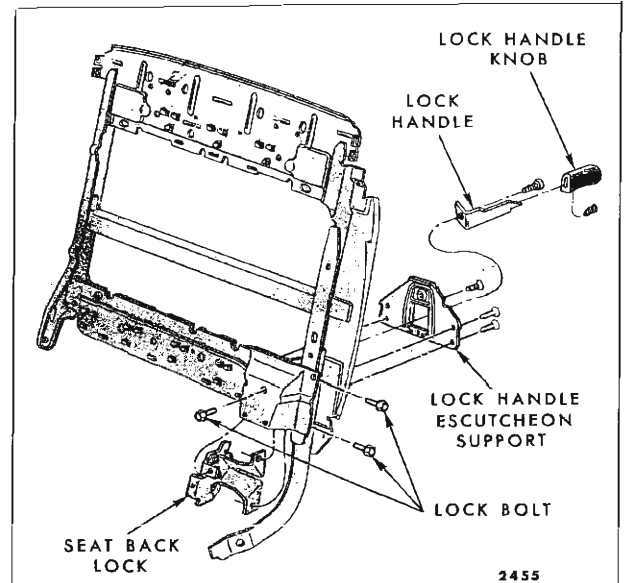

Fig. 15-30—Front Seat Back Lock "A, B & X" Two-Door Styles, Standard Full Width Seat
- Remove seat back lock handle knob, lock handle escutcheon and lock handle (Fig. 15-30).
- Remove hog rings securing seat back front and rear trim facings at bottom of seat back; then, turn up trim sufficiently to gain access to lock attaching bolts (Fig. 15-30).
- Remove seat back lock attaching bolts (Fig. 15-30); then, remove lock assembly from bottom of seat back.